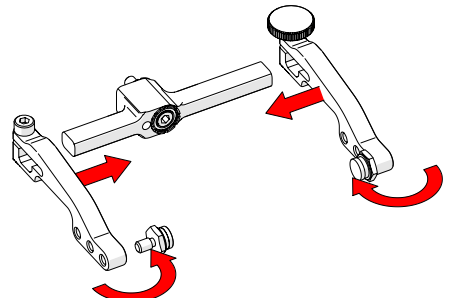

Fig. 108 - Attach arms & move buttons
5. Place the pivot buttons on the inside of the probe holder arms (Fig. 108) using a 3/8 in wrench (Fig. 28).